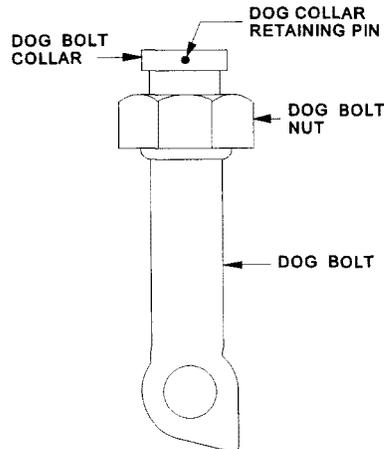

Figure 2-10. Dog Bolt Assembly
- d. With the hatch open, examine the dog bolt threads and nut for wear. Wear is indicated by excessive wobble between the nut and dog bolt. Replace the dog bolt assembly if it is excessively worn. Inspect to ensure that the flats on the dog bolt nut are in good condition and that the dogging wrench fits properly. Replace the nut if the flats are rounded off. Ensure the collar is not missing from the top of the dog bolt. The purpose of the collar is to prevent the loss of the nut when the hatch is opened. If satisfactory, coat the dog bolt threads with a light coating of silicone compound. See figure 2-10.